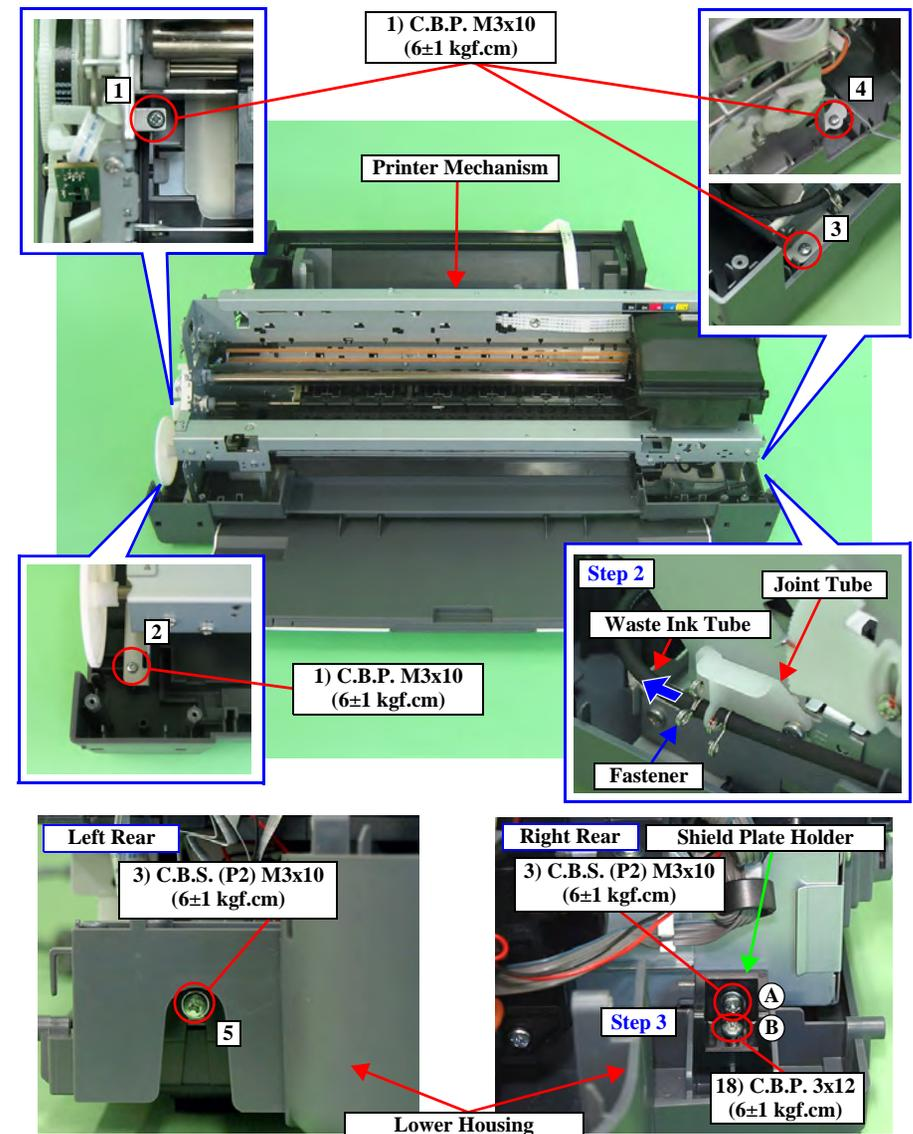

Figure 4-51. Screws that Secure the Printer Mechanism
- Install the Printer Mechanism to the Lower Housing as follows. (refer to Figure 4-51)
- Place the Printer Mechanism on the Lower Housing and secure the Shield Plate Holder and the Printer Mechanism with the screw (A).
- Secure the Printer Mechanism and Lower Housing with screws (x5). (Tighten the screws in the order shown in Figure 4-51)